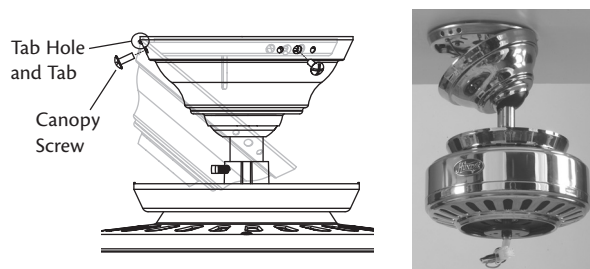

Figure 20 - Installing the canopy
2. Hook the tab hole over the tab on the ceiling plate as shown in Figure 20.
3. Raise the canopy, be sure the holes in the canopy and the ceiling plate are aligned, and loosely assemble the canopy screws one at a time. When all three screws are assembled, securely tighten all three canopy screws. Refer to Figure 20.